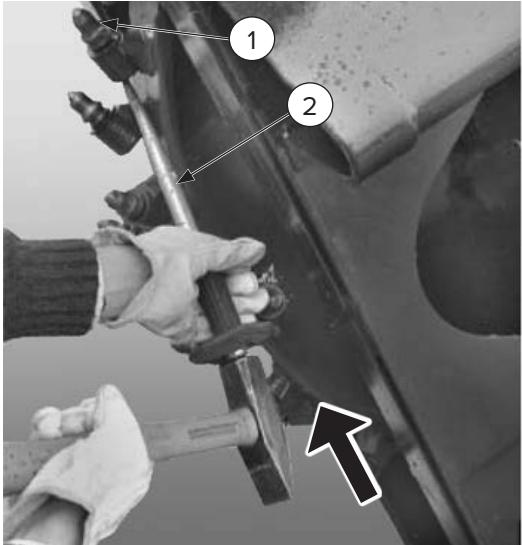

Figure 25
1. All teeth [Figure 25, Item 1] are held in the tooth holder by a retaining spring.
2. Position the supplied tool [Item 2] as shown in Figure 25.